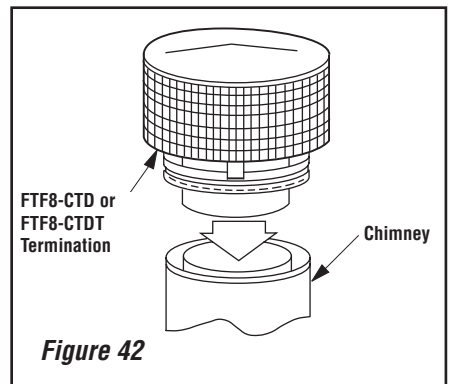

Figure 42
1. Hold the FTF8-CTD (or CTDP) over top of last chimney section (**Figure 42**).